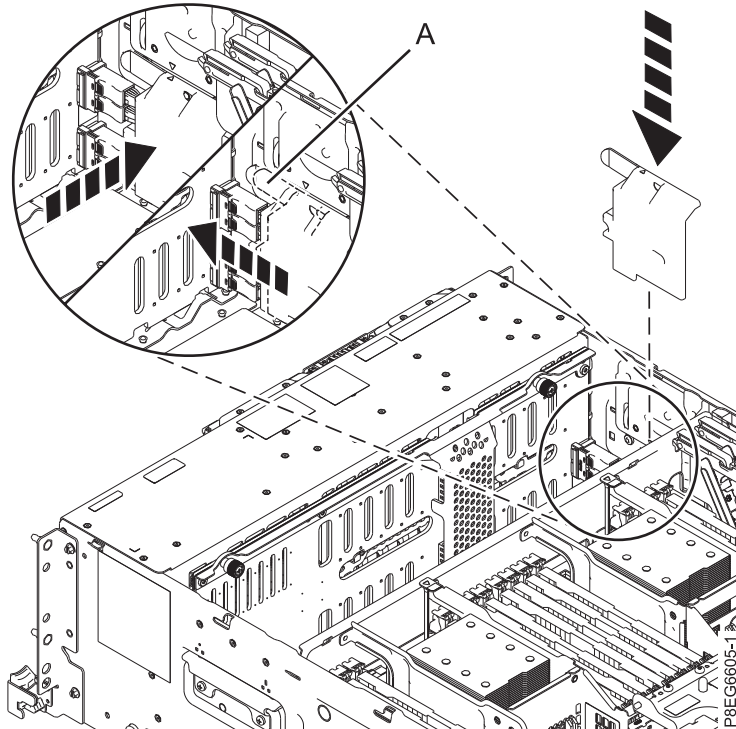

Figure 10. Replacing the SAS cable cover
8. Replace the SAS cable cover. Place the cover slots onto the pins on the side of the chassis. The triangle symbol on the SAS cable cover lines up with the triangle symbol on the side of the chassis when the cover slots and pins are aligned correctly. Push the cover forward toward the front of the system until the handle (A) latches in place. See Figure 10 on page 12.